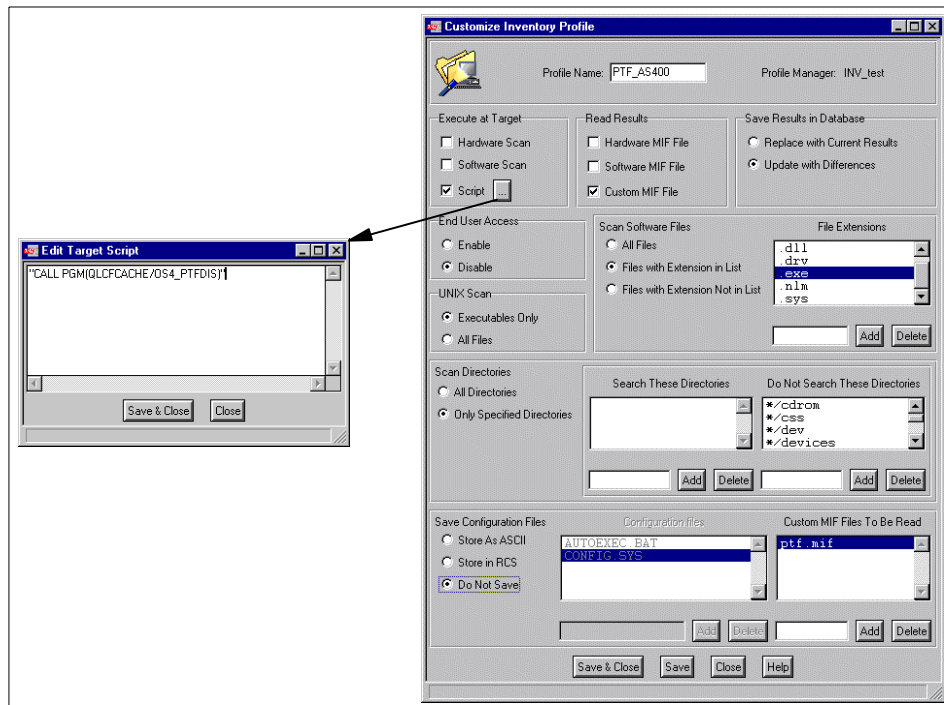

Figure 268. Inventory profile for scanning AS/400 PTFs
1. Under the Execute at Target field, shown in Figure 268 on page 433, select the **Script** option.